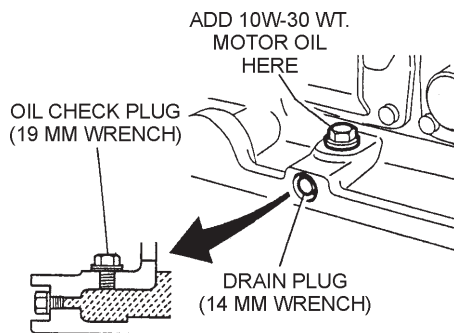

Figure 28. Vibrator Oil Drain and Check Plugs
1. In every 100 hours of operation, with the machine positioned horizontally, use a 3/4" (19 mm) wrench and remove vibrator oil level check plug (Figure 28). Visually inspect and see if vibrator oil level is up to filler port. Be sure to clean area around check hole to prevent dirt and dust from entering.
3. Using a 14 mm wrench remove the vibrator oil drain plug (Figure 28) from the vibrating plate assembly.
4. After hydraulic oil has been completely drained from machine, fill with 10W-30 motor oil to the appropriate safe operating level (Figure 28)